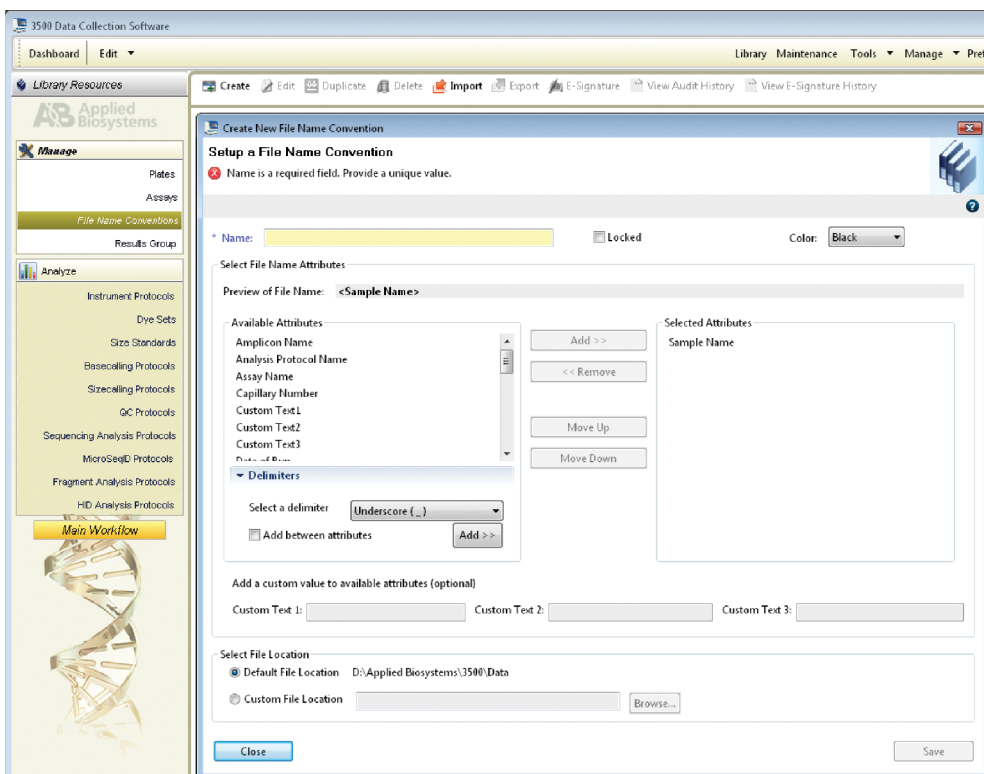

Figure 6. The 'Create New File Name Convention' window.
- 2.e. To create a new File Name Convention (Figure 6), navigate to the Library. Select **File Name Conventions**, then select **Create**. Alternatively, a previously created File Name Convention can be used.